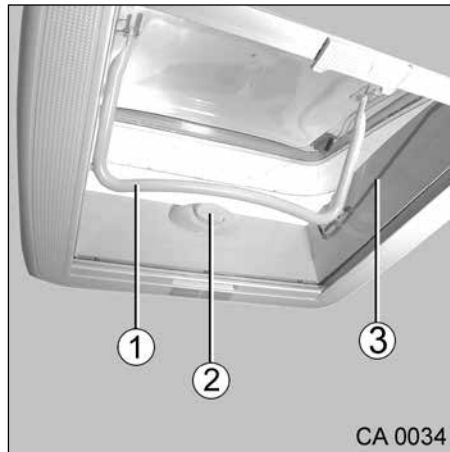

Fig. 12 Mini-Heki
1. Press the push button (Fig. 12, Pos. 2) and at the same time, pull the bar (Fig. 12, Pos. 1) down past the push button (Fig. 12, Pos. 2) into the guide groove (Fig. 12, Pos. 3).
1. Close the roof hood by pulling down the bar (Fig. 12, Pos. 1).
2. Lock the bar (Fig. 12, Pos. 1) using the push button (Fig. 12, Pos. 2).